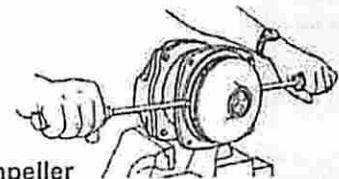

Figure 12
3. Once the nut [and washer] is removed, place a screwdriver on each side (See Figure 12) behind the impeller and pry away from the mounting flange. (Remove Woodruff Key from the shaft for Series 9000 only). Remove o-ring from the mounting flange.